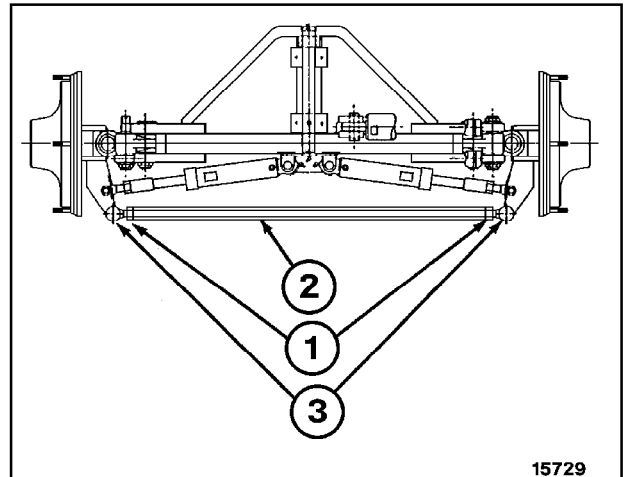

Figure 12
- D. If front wheels need alignment, loosen jam nut (1, Figure 12) on both ends of the tie rod (2), at the ball socket assembly (3).
- F. Once the proper alignment is obtained, tighten the jam nuts (1).